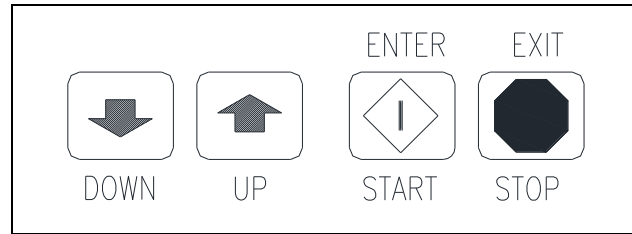

Figure 2-1: Washer Control Keypad Layout
There are four (4) push buttons that control the washer operation. Each button is shown in Figure 2-1, followed by an explanation of each button.